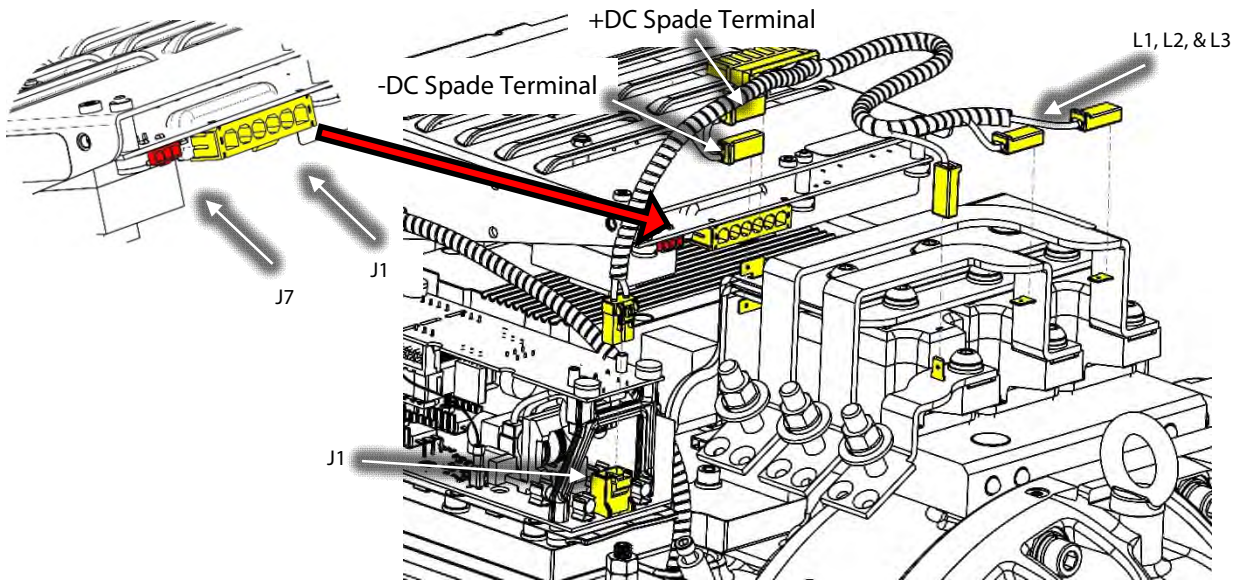
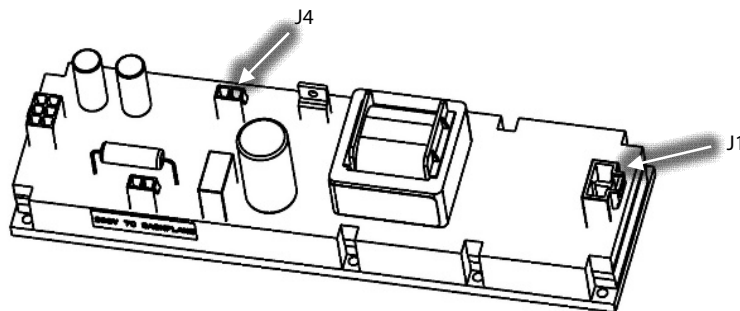

Figure 3 – Soft Start AC-DC Harness Removal
Figure 4 – Potted DC-DC Converter J1 and J4 Locations
5. Disconnect the three (3) spade terminals labeled L1, L2, and L3 from the AC bus bars. Refer to Figure 3 (Soft Start AC-DC Harness Removal) for this and the next three (3) steps.
8. Remove the J1 DC-DC connector from the DC-DC Converter. Refer to Figure 3 (Soft Start AC-DC Harness Removal) if this compressor contains the Open Frame DC-DC Converter, or to Figure 4 (Potted DC-DC Converter J1 and J4 Locations) if this is a Potted DC-DC Converter.
9. If the DC-DC Converter is the potted style, remove the J7 connector from the Soft Start. Refer to Figure 3 (Soft Start AC-DC Harness Removal).
10. If the DC-DC Converter is the potted style, remove the J4 connector from the DC-DC Converter. Refer to Figure 4 (Potted DC-DC Converter J1 and J4 Locations).
1. Place the wiring harness on top of the compressor. Refer to Figure 3 (Soft Start AC-DC Harness Removal) for this and the next five (5) steps.
5. Connect the three (3) spade terminals labeled L1, L2, and L3 from the AC bus bars
7. If the DC-DC Converter is the potted style, install the J4 DC-DC Converter connector. to Figure 4 (Potted DC-DC Converter J1 and J4 Locations).
8. Install the J1 DC-DC connector to the DC-DC Converter. Refer to Figure 3 (Soft Start AC-DC Harness Removal TT/TG Compressors) if this compressor contains the Open Frame DC-DC Converter, or to Figure 4 (Potted DC-DC Converter J1 and J4 Locations) if this is a Potted DC-DC Converter.